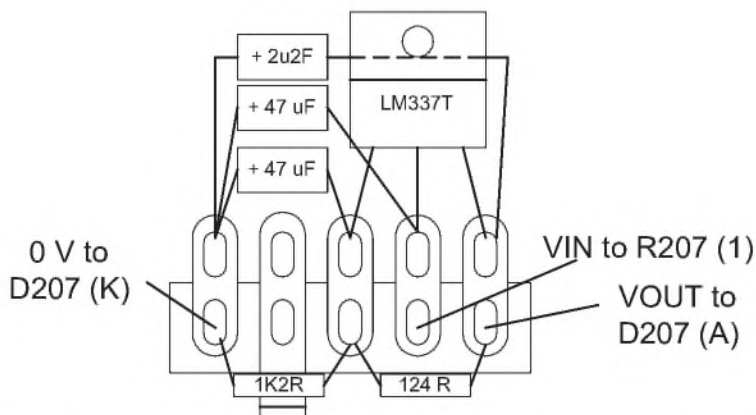

FIGURE 4: A guide for parts placement.
5. Refer to *Fig. 4* or *Fig. 5* to read the value of  $Z$ , at the same  $f\theta$  used in steps 3 and 4.